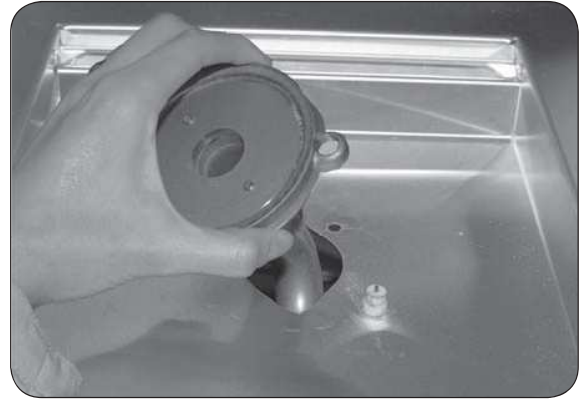
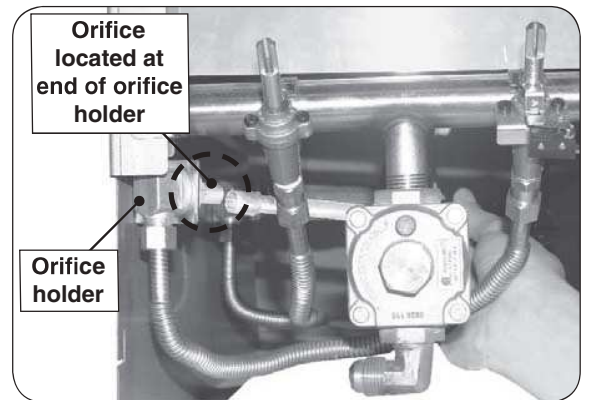

Fig. 13-1 Remove burner
Fig. 13-2 Orifice location
- d. Remove the burner cap and carefully lift the burner up and out, clearing the ceramic electrode (see Fig. 13-1), and pulling the burner tube away from the orifice, located on the end of the orifice holder on the left side of the unit (see Fig. 13-2).
- e. Using a $\frac{3}{8}$ " socket, remove orifice from the orifice holder (see Fig. 13-2) and check the number stamped on the orifice face.